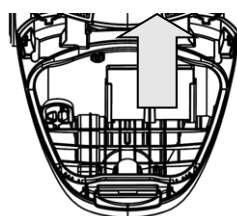

Fig 14
5. **The motor protection inlet filter:** Should be cleaned or exchanged after it is dirt. (Fig 14)